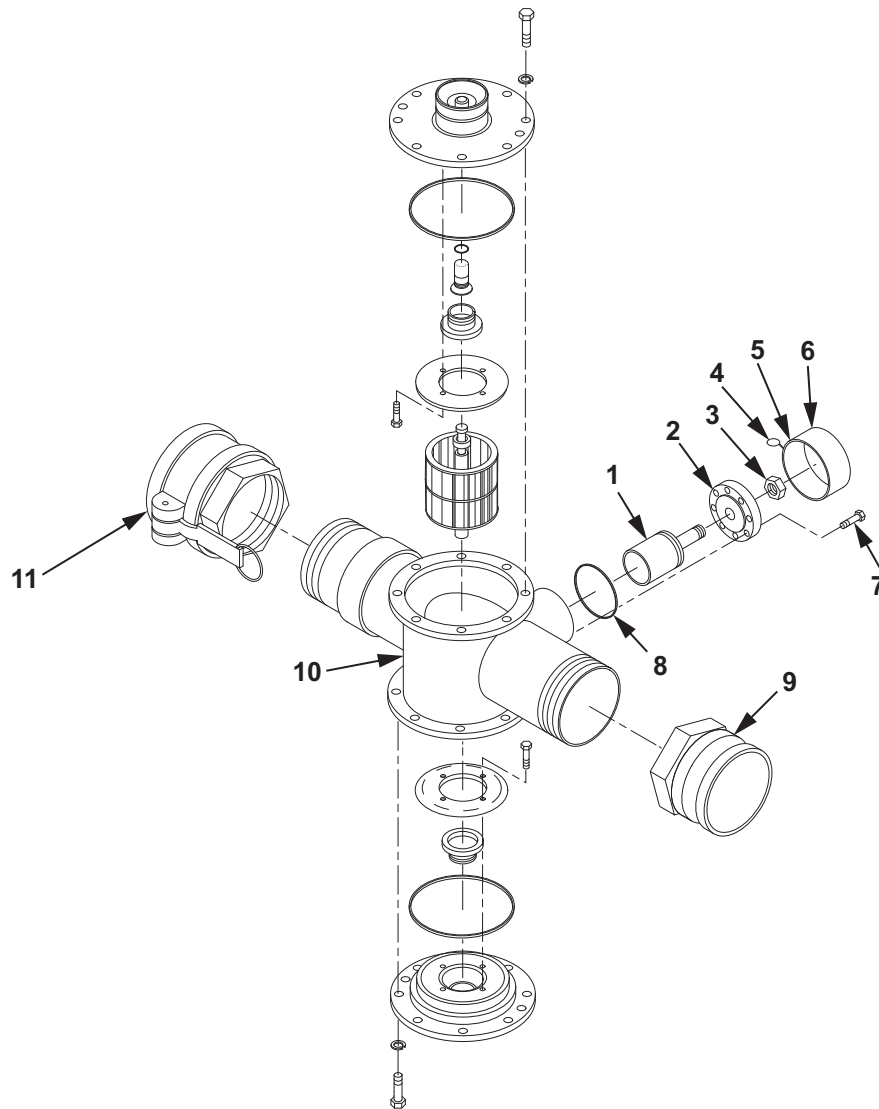

Figure 2. 4 In. Inline Flowmeter Disassembly.
1. Position drain pans below flowmeter (Figure 2, Item 14).
1. Remove calibration plug (Figure 2, Item 1) from flowmeter (Figure 2, Item 10).
- a. Remove lead seal (Figure 2, Item 4) and wire (Figure 2, Item 5) from calibration plug cover (Figure 2, item 6). Discard lead seal (Figure 2, Item 4) and wire (Figure 2, Item 5).
- b. Remove calibration plug cover (Figure 2, Item 6) from calibration plug (Figure 2, Item 1).
- c. Remove eight screws (Figure 2, Item 7) from calibration plug (Figure 2, Item 1).
- d. Remove calibration plug (Figure 2, Item 1).
2. Remove O-ring (Figure 2, Item 8) from calibration plug (Figure 2, Item 1). Discard O-ring (Figure 2, Item 8).
3. Remove nut (Figure 2, Item 3) and base plate (Figure 2, Item 2) from calibration plug (Figure 2, Item 1).
1. Using pipe wrench, remove male cam and groove coupling (Figure 2, Item 9) from flowmeter (Figure 2, Item 10).
2. Using pipe wrench, remove female cam and groove coupling (Figure 2, Item 11) from flowmeter (Figure 2, Item 10).